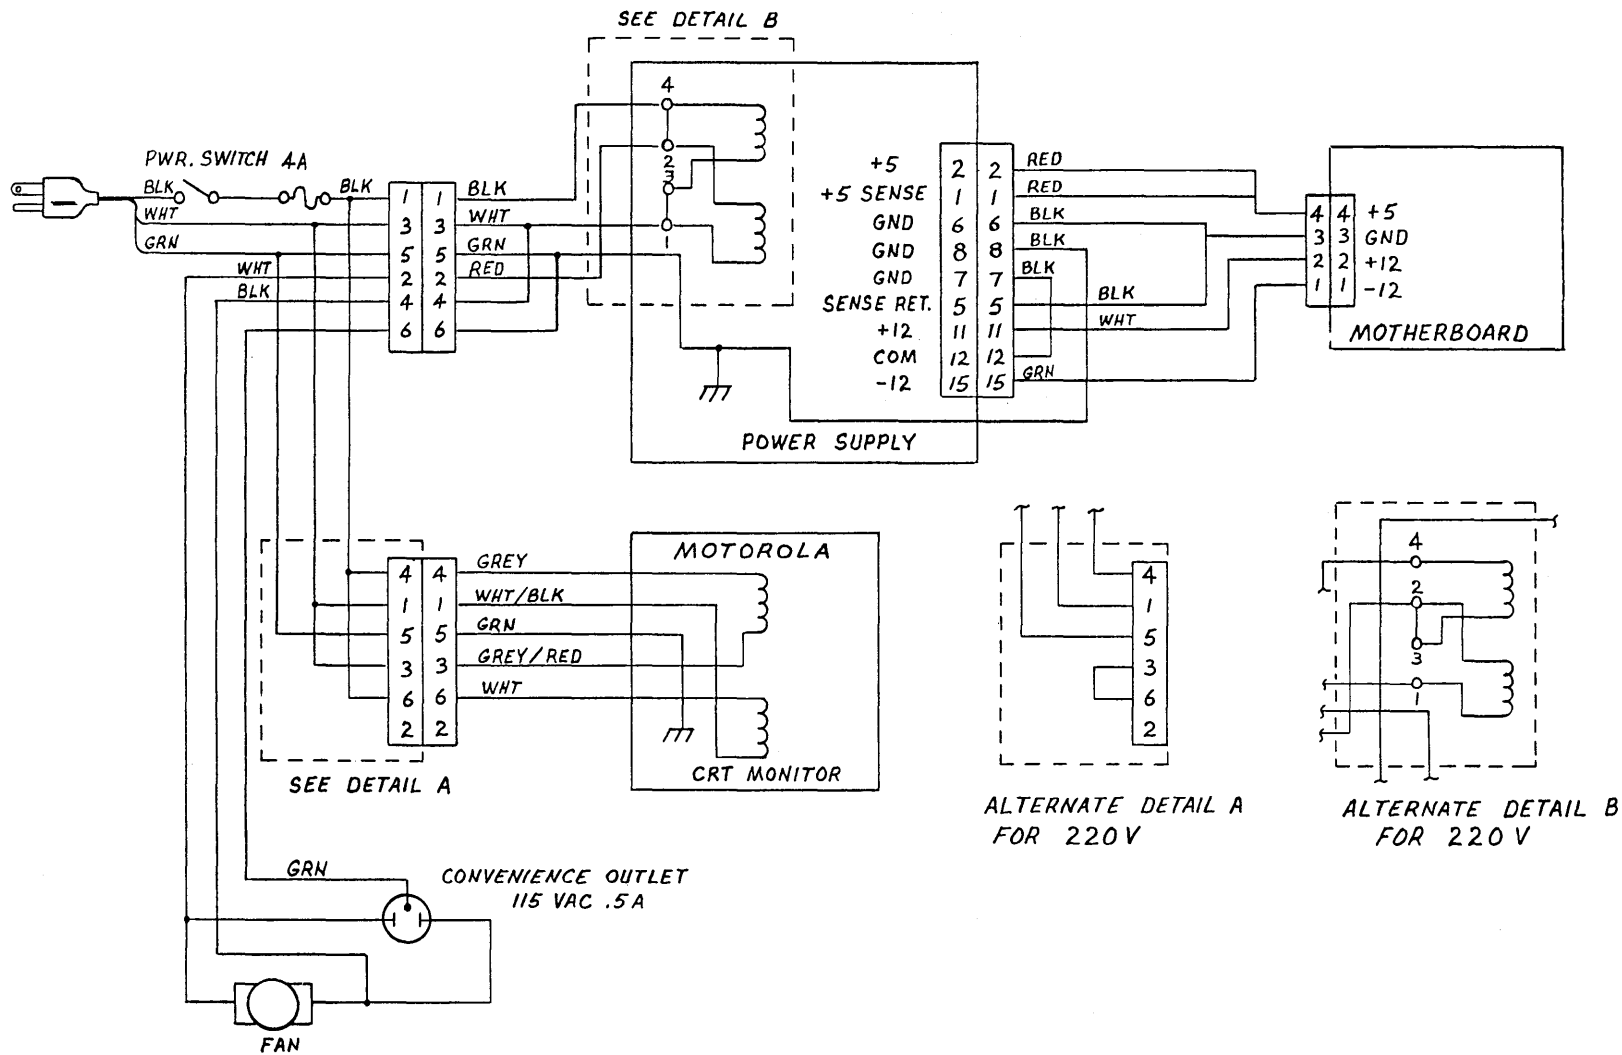

Figure 1-9. ADS Chassis Wiring
- e. Check for continuity between the metal cabinet, frame, or chassis and the third (cylindrical) prong on the AC line input plug. See Figure 1-9, ADS Chassis Wiring.